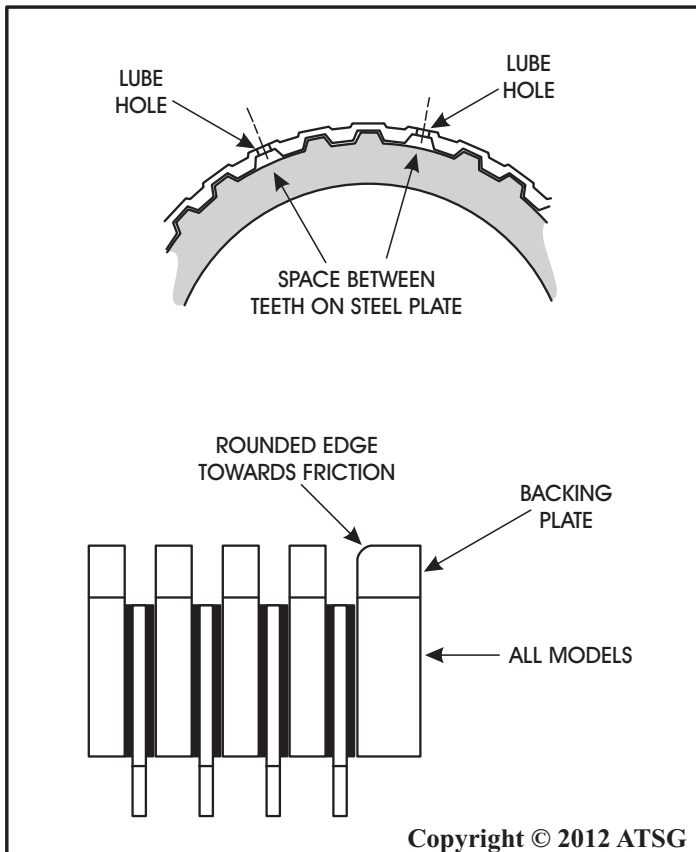

Figure 149
Note: When installing the steel plates, align them so that the places with no teeth will be aligned with the lube holes in the housing, as shown in Figure 149.
13. Install the underdrive clutch backing plate, as shown in Figure 149 and 150, with the rounded edge towards the friction.